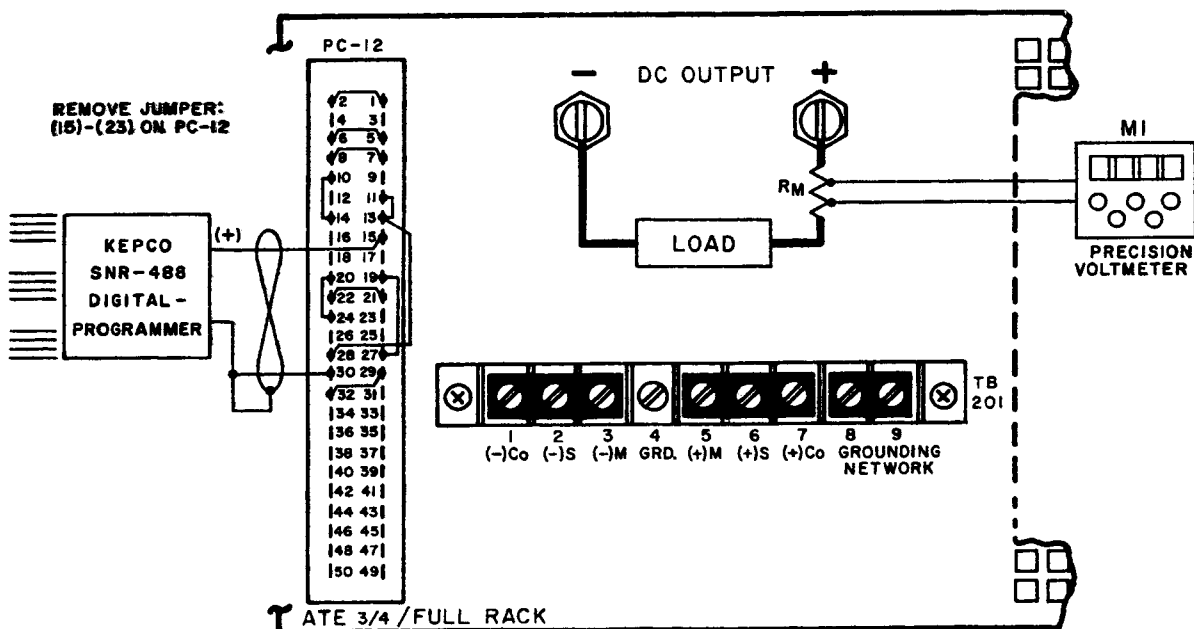

FIG. 3-11 CONNECTIONS FOR OUTPUT CURRENT CONTROL WITH A 0-1 VOLT CONTROL SIGNAL (KEPCO SN-488 DIGITAL PROGRAMMER).
3-58 GENERAL. The ATE output current, controlled by a front panel CURRENT CONTROL rheostat in the local control mode, can be remotely controlled by disconnecting the 15V bias from the non-inverting input of the EXT. CURRENT COMPARISON AMPL at the REAR PROGRAMMING CONNECTOR, and applying a 0 to 1 volt external control signal with reference to the ATE COMMON terminal. Since the non-inverting input of the EXT. CURRENT COMPARISON AMPL is used, only the small amplifier bias current must be supplied by the external control source. IN ALL CURRENT PROGRAMMING APPLICATIONS, THE FRONT PANEL CURRENT CONTROL SETTING OF THE ATE ACTS AS A "BACK-UP" CURRENT LIMIT AND MUST BE SET SLIGHTLY HIGHER THAN THE REQUIRED MAXIMUM OUTPUT CURRENT. An application, demonstrating this control method is described in PAR. 3-60 and illustrated in FIG. 3-11.
- 1) Connect the EXT. CONTROL VOLTAGE, (Model SN-488 Digital Programmer), the LOAD and the PRECISION VOLTMETER (M1) to the ATE as shown in FIG. 3-11.
Note: The output current value can be measured directly by means of a suitable ammeter in series with the load or, as indicated in FIG. 3-11, indirectly by means of the precision voltmeter (M1) across a current measuring resistor ( $R_M$ ).  $R_M$  should be selected such that a convenient range on the precision voltmeter can be used, e.g., for a 10 ampere output current, use a 0.1 ohm, resistor to produce a one volt full scale reading. If an electronic voltmeter is used, it should be batter-operated to avoid ground loops.